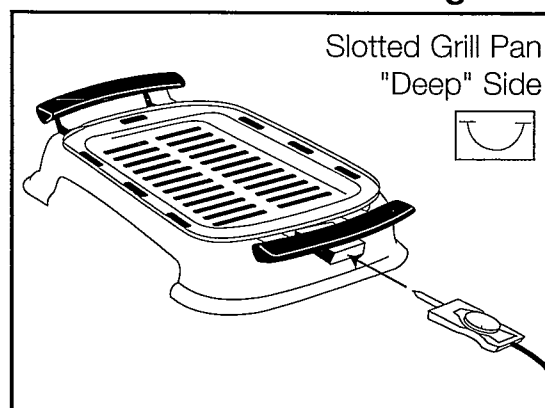

Figure 6
4. Be sure Dial on Temperature Control Probe is on the "OFF" (the "OFF" on Dial aligns with arrow on Control) and firmly push Probe into the Probe Receptacle on the side of the Slotted Grill Pan or Steamer/Stir Fry Pan. See Figure 6.